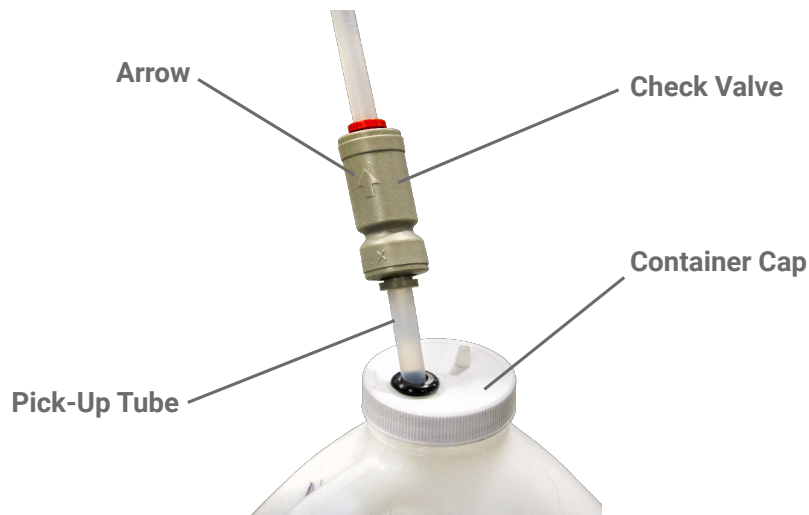

Figure 4
- D. Place the container pickup tube with the installed check valve into the container and replace the container cap. Make sure that the arrow imprinted on the side of the check valve (See Figure 4) points away from the sanitizer container. To prevent backflow and possible leaking at the container pickup point, do **NOT operate the system without the check valve installed!**